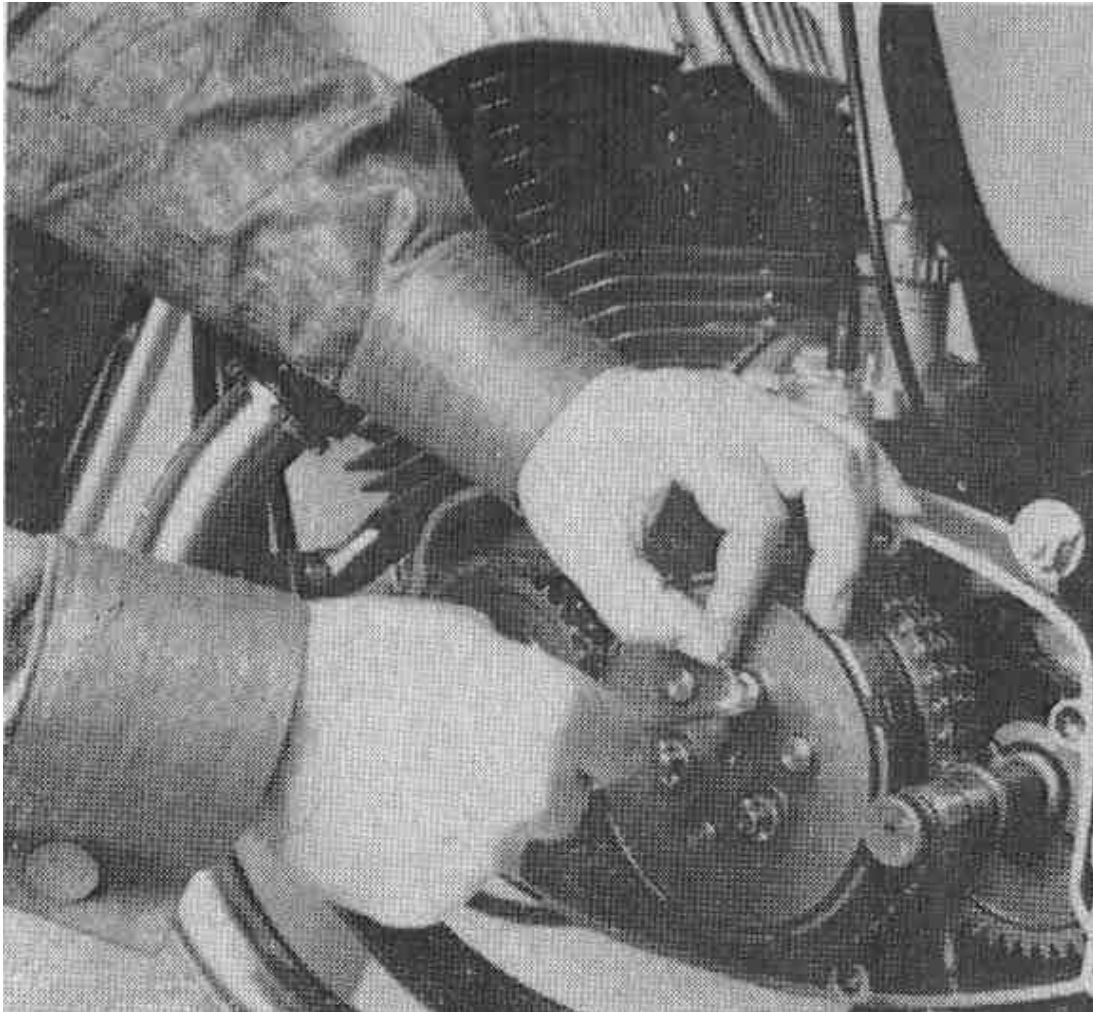

Fig. 39 – Removal of clutch plates
11. REPLACEMENT OF CLUTCH PLATES (Fig. 39)
The clutch plates are accessible after draining the gearbox oil and removal of the left-hand crankcase cover with the engine placed on its right side. It is not absolutely necessary to drain the oil from the gearbox, but the storage battery must be removed without fail. Use an open-ended 10 mm spanner to compress the individual springs with the spring retainer, and then remove the pins, retainer and springs (see Fig. 39). The clutch has five lined plates, four metal plates and one metal thrust plate. If the lining is worn, the plates must be replaced with new one coated with oil prior to assembly. After every replacement of the clutch plates, adjust the clutch as per Art. "Clutch adjustment."